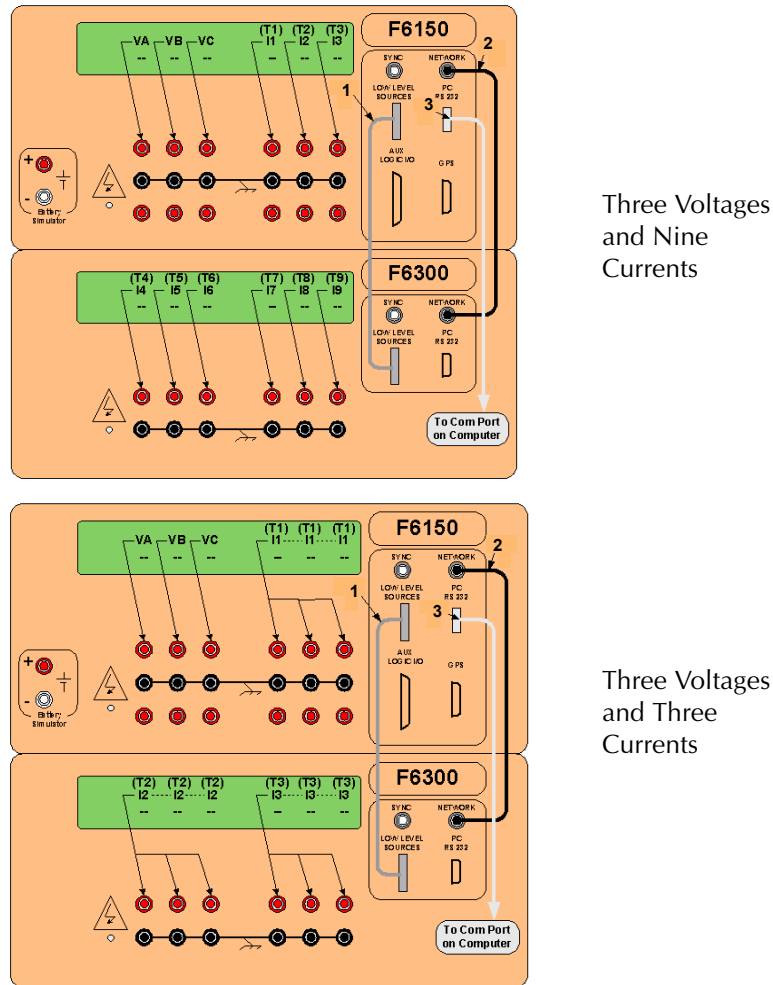

Figure 2.17 Low Level Source Connections
1. Connect a RG-58 coax cable with 50 Ohm terminators at each end or CAT5 or better crossover cable at the NETWORK 10Base2 Ethernet connector of each instrument (Figure 2.17).